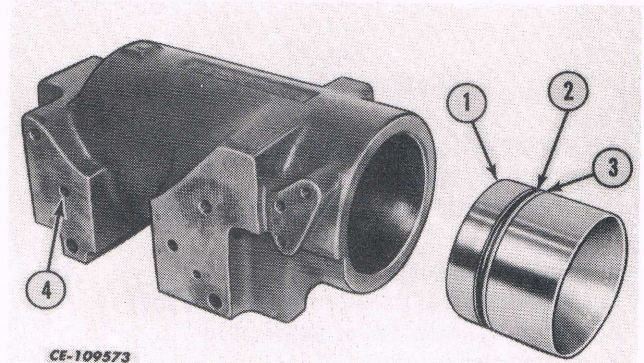

Fig. 41
4. The piston (1) may be removed from the cylinder if necessary, by bouncing it against a wooden block. When the piston flange reaches the bottom of the cylinder, completely remove by gently tapping the cast surface. Be very careful not to allow the piston to drop. See Fig. 41.